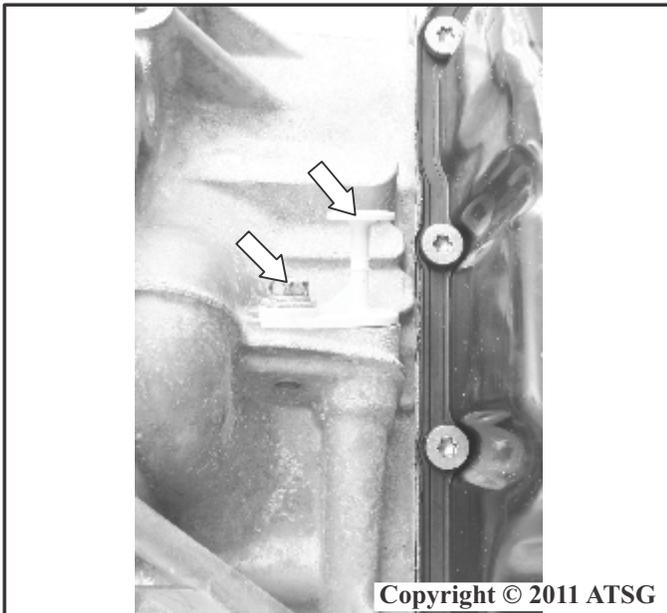

Figure 23
12. Remove the transmission fluid level indicator retaining bolt as shown in Figure 23.
13. Carefully remove the transmission fluid level indicator using a twisting motion and lift straight up as shown in Figure 23.